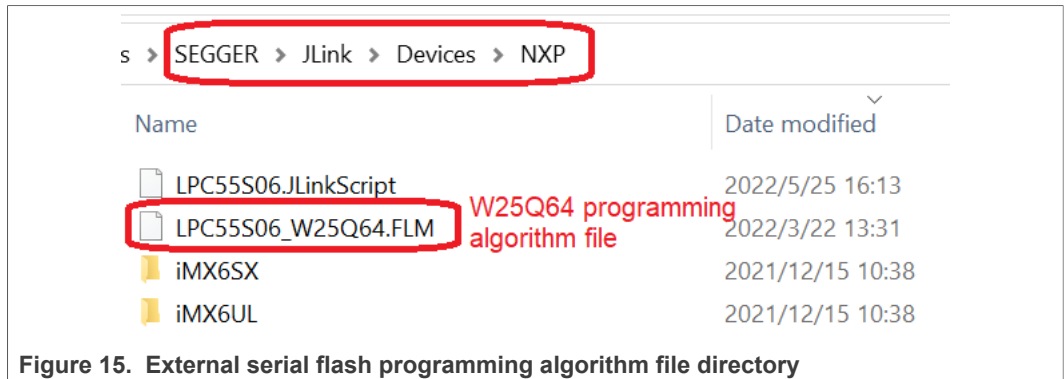

Figure 15. External serial flash programming algorithm file directory
- a. To program the flash memory in our design with J-Link probe, a driver or an algorithm file (called an FLM file) is required. Place the programming algorithm file for the external serial flash to the specific file directory for NXP devices in the SEGGER driver installation, as shown in Figure 15.